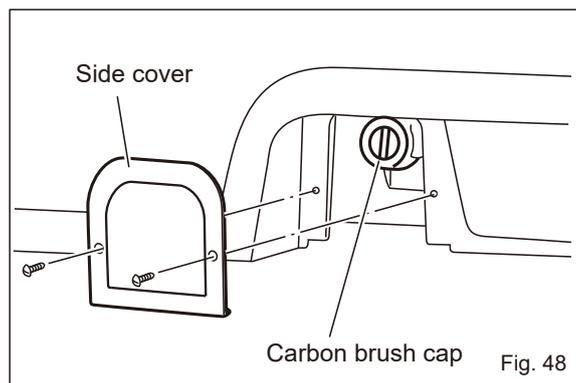

Fig. 48
- Replacing the Carbon brushes at the both sides. (Fig. 48)